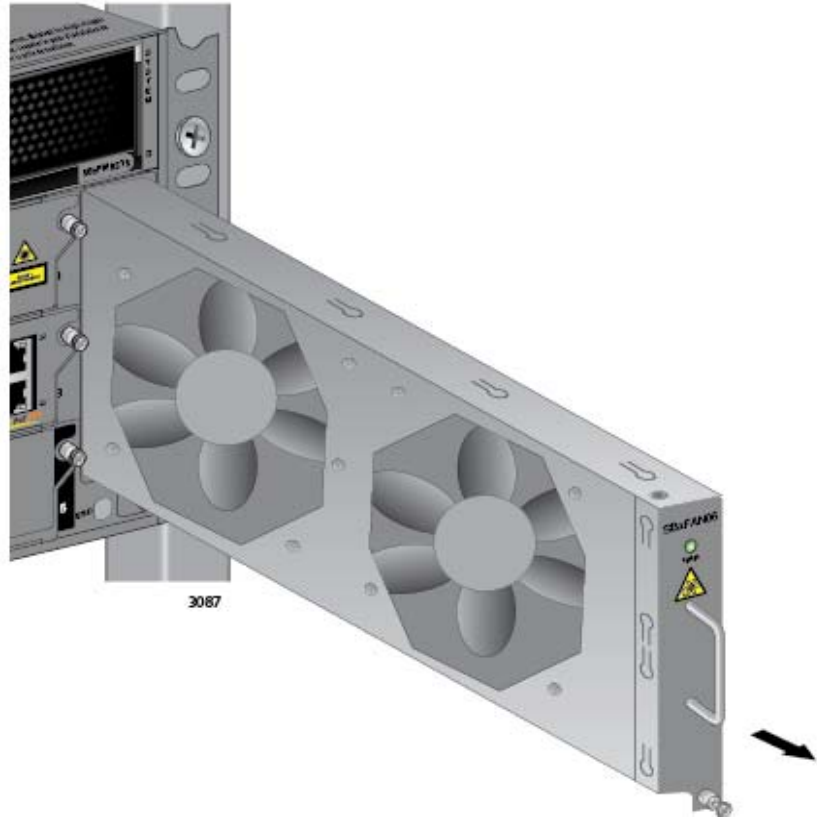

Figure 166. Removing the AT-SBxFAN06 Fan Module from the Chassis
9. After the fans have stopped, slide the module from the chassis. Refer to Figure 166 on page 257.